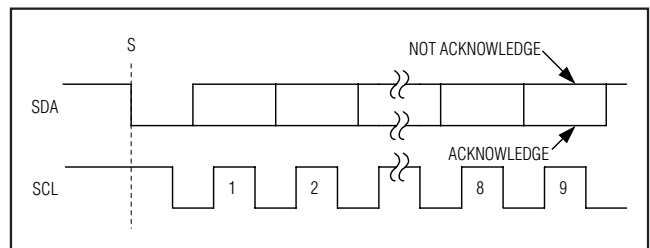

Figure 6. Acknowledge Bits
Data transfers are acknowledged with an acknowledge bit (A) or a not-acknowledge bit (\overline{A}). Both the master and the MAX11606–MAX11611 (slave) generate acknowledge bits. To generate an acknowledge, the receiving device must pull SDA low before the rising edge of the acknowledge-related clock pulse (ninth pulse) and keep it low during the high period of the clock pulse (Figure 6). To generate a not-acknowledge, the receiver allows SDA to be pulled high before the rising edge of the acknowledge-related clock pulse and leaves SDA high during the high period of the clock pulse. Monitoring the acknowledge bits allows for detection of unsuccessful data transfers. An unsuccessful data transfer happens if a receiving device is busy or if a system fault has occurred. In the event of an unsuccessful data transfer, the bus master should reattempt communication at a later time.